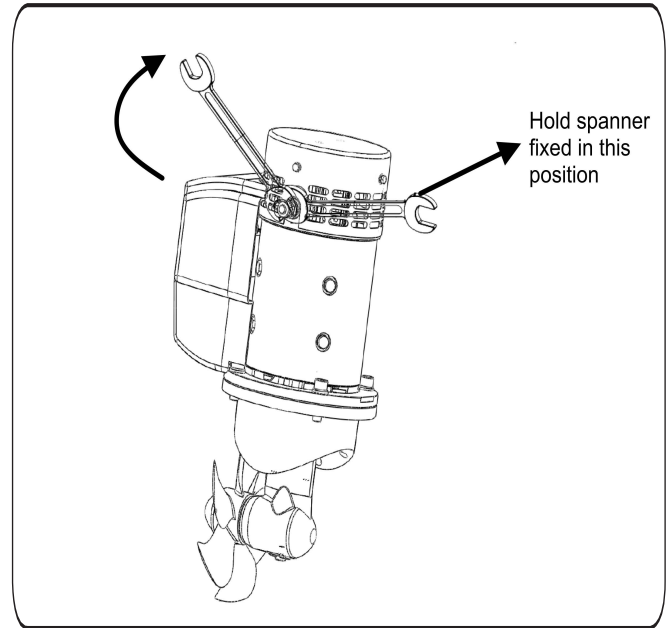

Figure 8
- To prevent loose connections, the terminals to the motor must be fastened tightly using two spanners. One will hold the inner nut, while the other will tighten the outer nut (Figure 8).